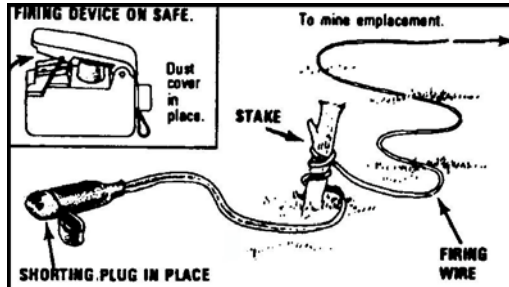

Figure 4. Firing wire secured.
- a. Tie the shorting plug end of the firing wire to a fixed object such as a stake or tree at the firing position (Figure 4).